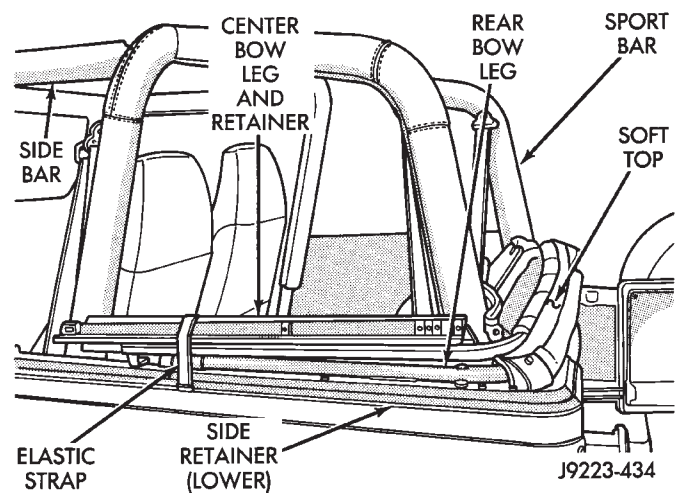

Fig. 113 Stowed Top Cover
(1) If stowed at the rear of the vehicle, detach the elastic straps that retain the top cover (Fig. 113).